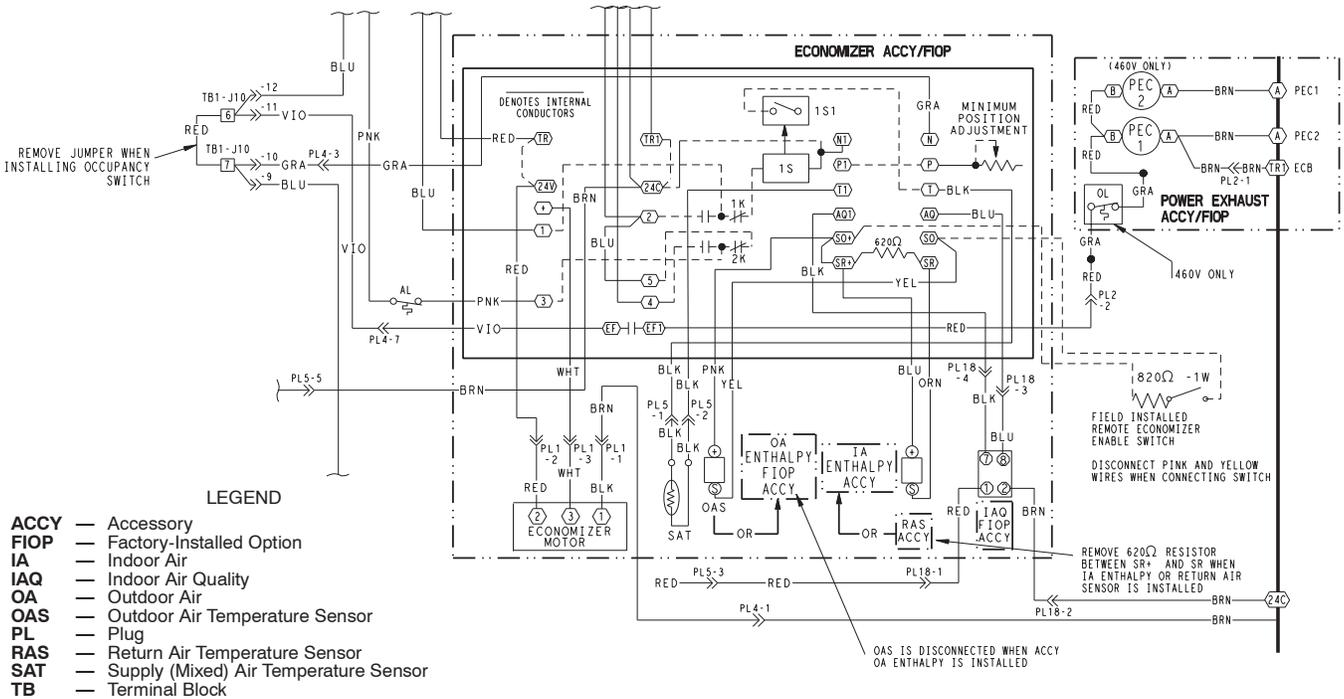

Fig. 24 — EconoMiSer IV Wiring
Determine the EconoMiSer IV control mode before installing sensors and accessories. Different sensors are required for different control modes, and a number of accessories are available. Refer to Table 5. The EconoMiSer IV is supplied from the factory with a mixed air temperature sensor and an outdoor air temperature sensor. This allows for operation of the EconoMiSer IV with outdoor air dry bulb changeover control. Additional accessories can be added to allow for different types of changeover control and operation of the EconoMiSer IV and unit. See Fig. 24 for wiring.
If a separate field-supplied transformer is used to power the IAQ sensor, the sensor must not be grounded or the EconoMi\$er IV control board will be damaged. (See Fig. 24.)
3. Ensure that the factory-installed jumper is in place across terminals P and P1. If remote damper positioning is being used, make sure that the terminals are wired according to Fig. 24 and that the minimum position potentiometer is turned fully clockwise.